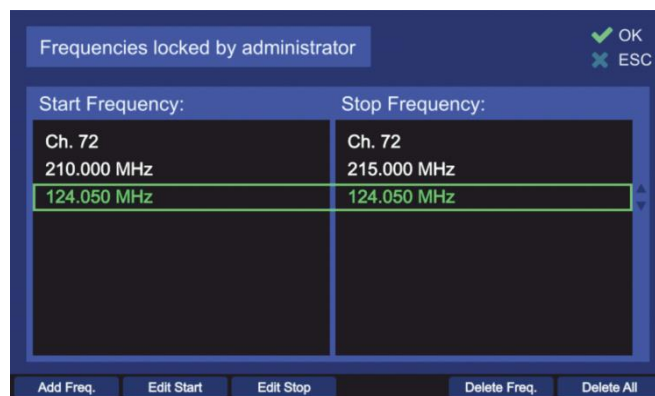

Fig. 121 Locked frequencies list. Administrator view
- By pressing the “OK button or hotkey “Edit Value” (s. Fig. 106), while the setting “Lock/Unlock Frequencies” is marked by the green frame, the following dialog is opened (s. Fig. 121).